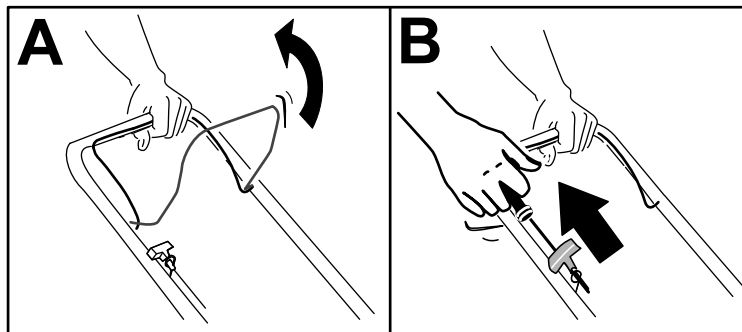

Figure 14
2. Pull the blade-control bar to the upper handle and hold it (A of Figure 14).
3. Pull the recoil-start handle lightly until you feel resistance, then pull it sharply, and allow it to return to the rope guide on the handle (B of Figure 14).